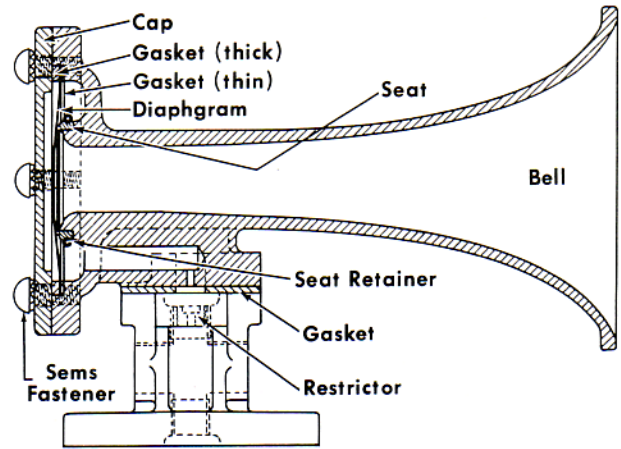

Fig. 5 - Cross-Section Nathan "P" Type Air Horn
D. Nathan Chime Horns - "P" Series (Reference Fig. 5)